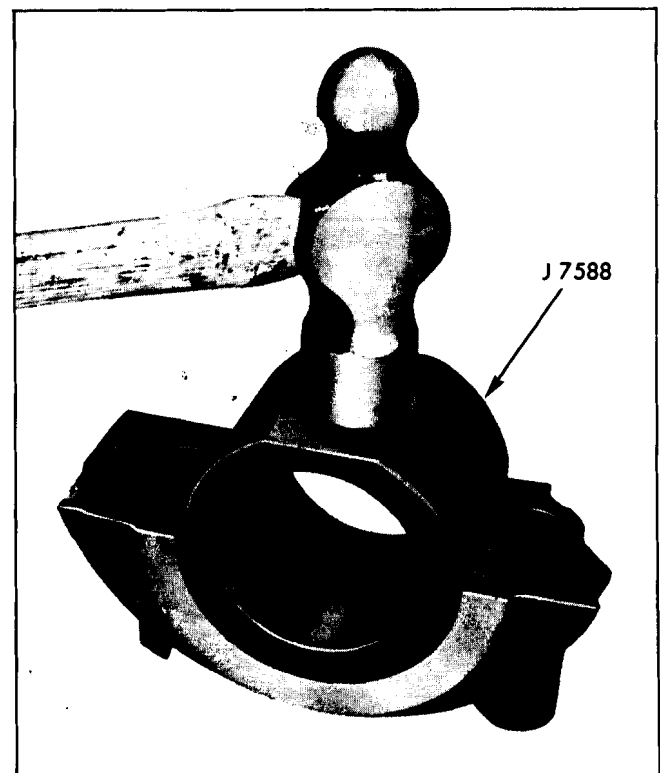

Fig. 6-142 Forming New Seal in Cap
- e. Form a new seal in the cap (Fig. 6-142).
- f. Remove the newly formed seal from the cap and cut four (4) pieces approximately $3/8$ " long from this seal.
- h. Form another new seal in the cap (Fig. 6-142).